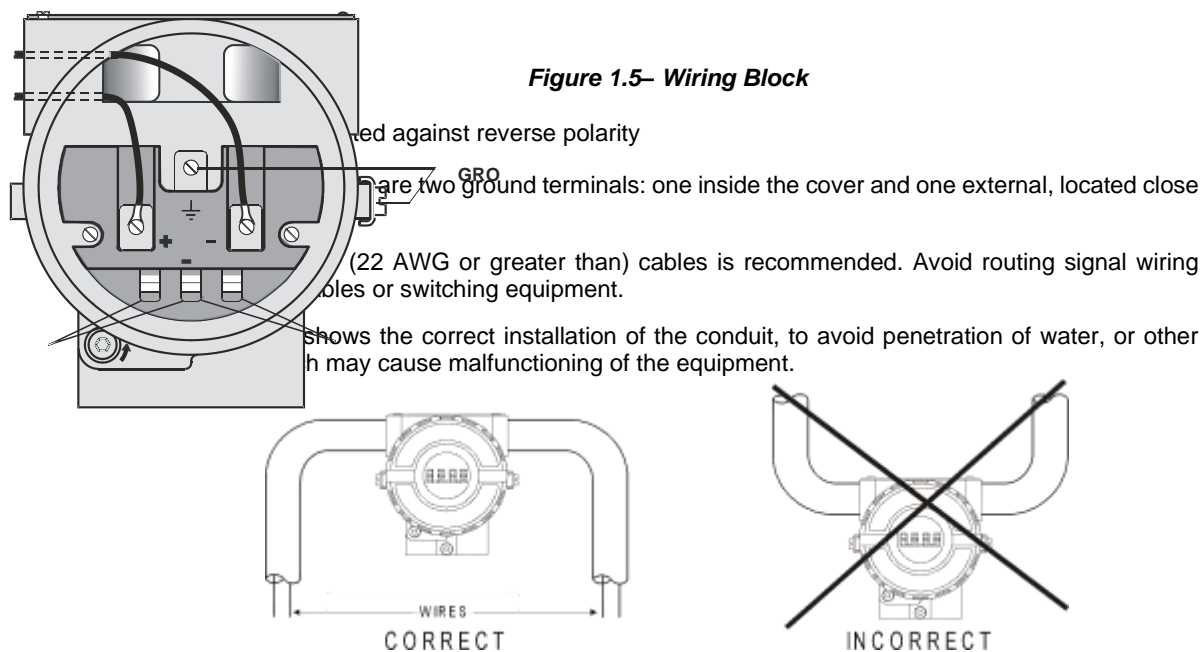

Figure 1.6 - Conduit Installation
**Test** and **Communication terminals** allow, respectively, to measure the current in the 4 - 20 mA loop, without opening it, and to communicate with the transmitter. To measure it, connect a multimeter in the mA scale in the "-" and "+" terminals, and to communicate, use a **HART** configurator in the "COMM" and "-" terminals. The wiring block has screws on which fork or ring-type terminals can be fastened. See Figure 1.6.